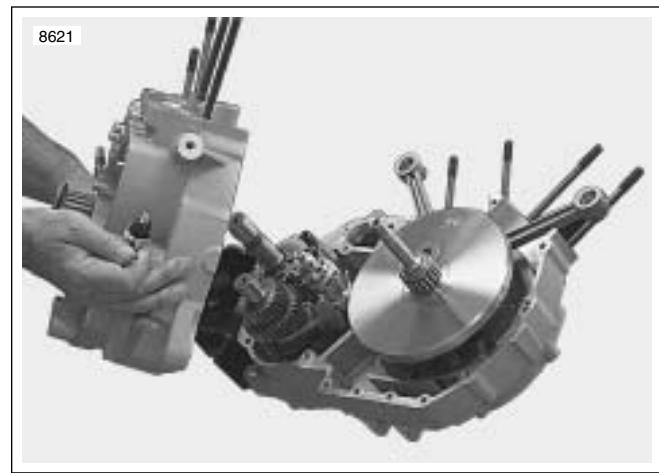

Figure 6-92. Crankcase Halves
5. See Figure 6-92. Assemble crankcase halves together.